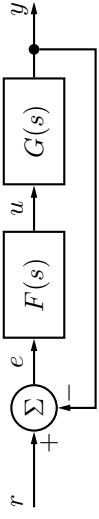
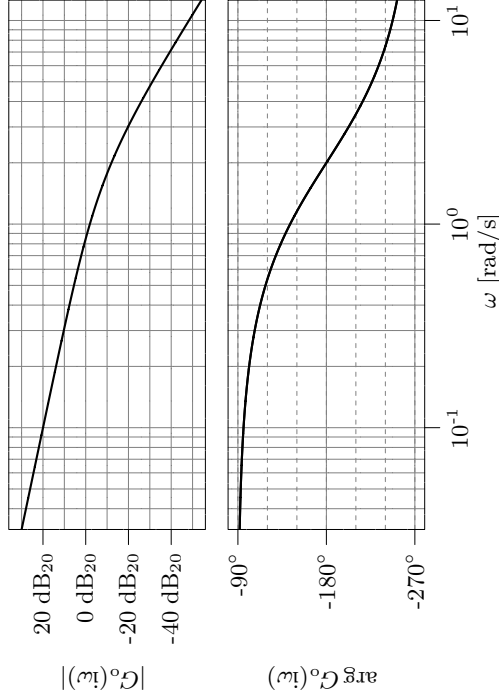
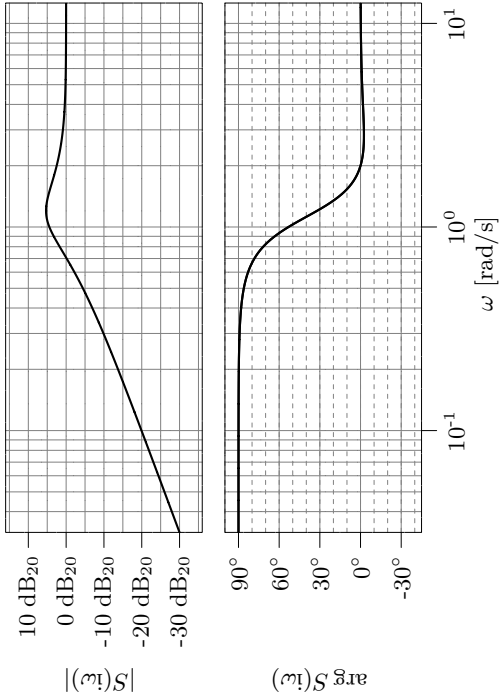

Figure 6.11a
Figure 6.11b
Figure 6.11c
6.11 Consider the control system in Figure 6.11a. The controller  $F(s) = 2$  gives the Bode plot of the loop gain  $F(i\omega)G(i\omega)$  shown in Figure 6.11b. The Bode plot of the sensitivity function is shown in Figure 6.11c. The reference signal is  $r(t) = 2 \sin 0.1t$ . Determine the amplitude of the error in steady state.